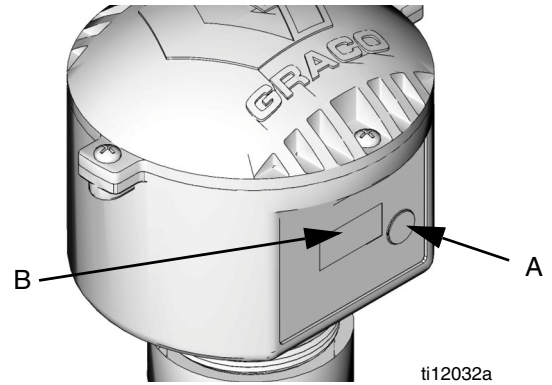

FIG. 4
2. Press and hold the Display button (A, FIG. 4) until display (B) says "Register Mode".
See FIG. 4 for display messages you will see during Registration Mode.